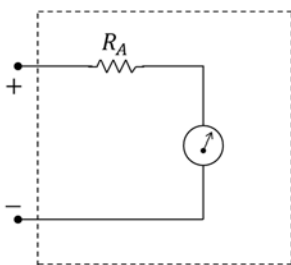
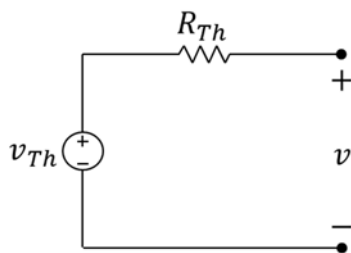
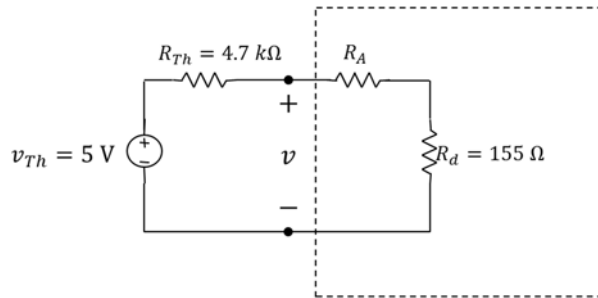

Figure 5. Voltage meter.
Figure 7. Thevenin circuit.
Figure 8. The loading effect (again).
In class, we learned how to make a simple (but not very good) voltage meter using a d'Arsonval meter movement. The circuit diagram for such a meter is shown below in Figure 5. This meter includes (of course) a d'Arsonval meter movement and a resistor. The purpose of the resistor is to limit the current through the meter movement. The meter movements that we have in the lab have a maximum current of $i_{max} = 1 \text{ mA}$. The internal resistance of the meter movements is $R_d = 155 \Omega$. You are to design a volt meter that gives full scale reading (100% deflection of the meter needle) at 5 V.
We have learned (or will learn soon) in class that circuits can be modeled by a Thevenin equivalent circuit, as shown in Figure 7 below. In our PSpice simulation above, v_{Th} was varied from 0 to 5 V, but always with $R_{Th} = 0$. What we will find out below is that our meter works well whenever $R_M = R_A + R_d$ is very large compared to R_{Th} . Indeed, an ideal volt meter would have $R_M = \infty$.
Let's first look at a simple example when this is not true. Let's connect our meter from Figure 5 to the Thevenin circuit of Figure 7 with $v_{Th} = 5$ V, and $R_{Th} = 4.7$ k Ω , as shown below in Figure 8. If our meter were not connected, v would be 5 V. If our meter were ideal, v would still be 5 V even with our meter connected. However, our simple meter loads the circuit and alters the value of v . A certain amount of this is unavoidable, but it should be minimal for a good meter.
c) Calculate v in Figure 8.
e) Recalculate v in Figure 8, but with $R_{Th} = 47 \Omega$, rather than $4.7 k\Omega$.
Choose an appropriate standard resistor, and connect it in series with a $1\text{ k}\Omega$ pot acting as a variable resistor. Adjust the pot until the series combination equals the new value of R_A from your data sheet. Use this series combination to build a volt meter (as per Figure 5).
Build the Thevenin circuit shown in Figure 7 using $v_{Th} = 5$, and $R_{Th} = 4.7\text{ k}\Omega$. Connect your meter to the Thevenin circuit. Estimate as best you can the fraction, say x , of full scale that the needle deflects. Since you designed your meter for a full scale of 5 V , your voltage reading is then $v = 5x$. Record your values of x and v on your data sheet.